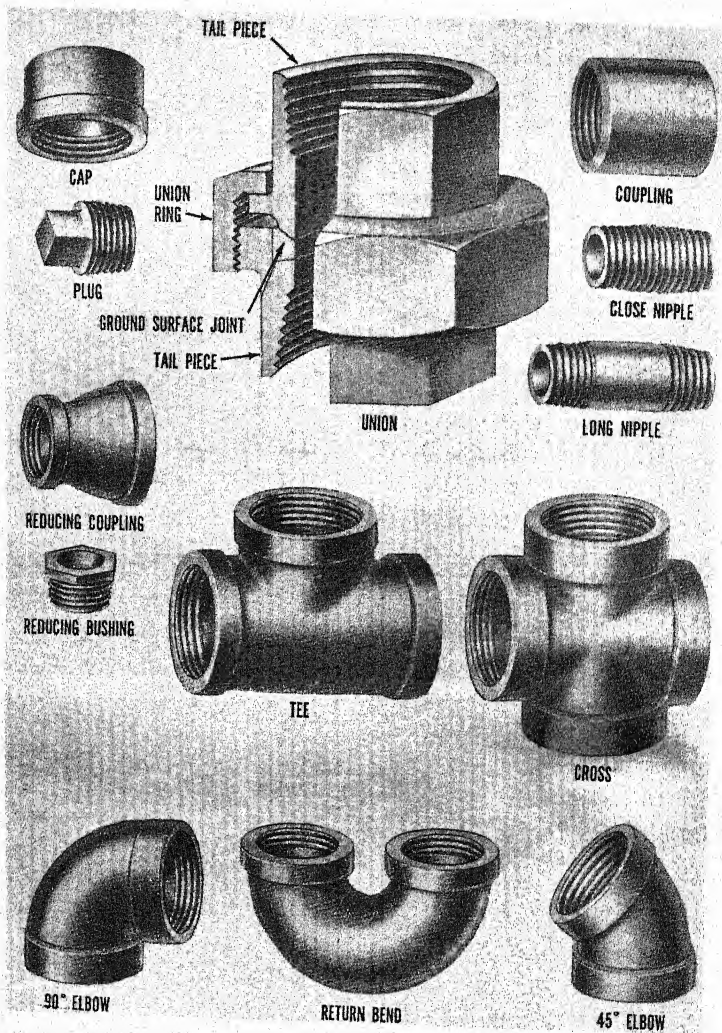

Figure 41. — Standard pipe fittings.
*Pipe fittings* are materials with which you will need to be familiar. Piping systems will usually be installed, maintained, and repaired by the Pipe Fitter on your ship or station. As a Metalsmith, you will use many pipe fittings, such as elbows, tees, unions, and crosses, in the fabrication of hand rails and life lines. When you fabricate these life lines and handrails, you may use screw fittings as illustrated in figure 41, or chamfered (beveled) fittings for welded joints. The only difference between these fittings is that one has internal threads cut to receive external threads on a pipe, while the other is manufactured to fabricate by welding.